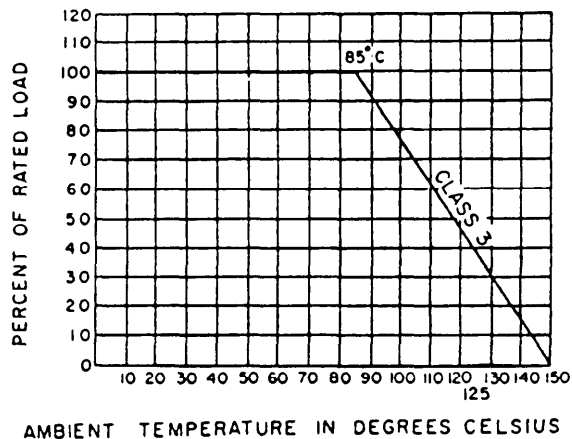

FIGURE 204-1. Derating curves for high ambient temperatures.
2.1.3 Derating at high temperature. These resistors may be used at the full normal wattage at an ambient temperature of +85°C. When a resistor is to be used where the surrounding temperature is higher than +85°C, a correction factor must be applied to the wattage rating so as not to overload the resistor. This correction factor may be taken from the derating curve shown on figure 204-1.